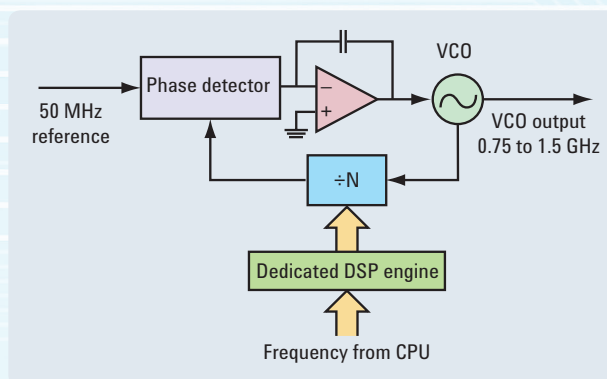

Figure 2. Simplified block diagram of the frequency synthesizer.
The frequency synthesizer inside the Agilent MXG generates the continuous wave (CW) RF signal. Each time the carrier frequency is changed, the synthesizer must move its output to the new frequency, representing a significant portion of the total switching time¹. A simplified block diagram of the synthesizer is shown in Figure 2.